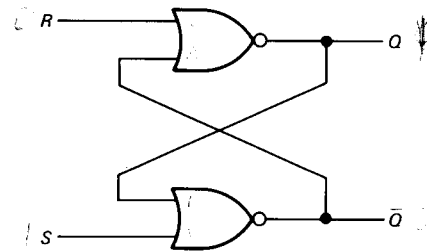

Fig. 3-27 Cross-coupled NOR gates.
- 3-5. The outputs in Fig. 3-27 are cross-coupled back to the inputs of the NOR gates. If  $R = 0$  and  $S = 1$ , what do  $Q$  and  $\bar{Q}$  equal?
- 3-6. If  $R = 1$  and  $S = 0$  in Fig. 3-27, what does  $Q$  equal?  $\bar{Q}$ ?